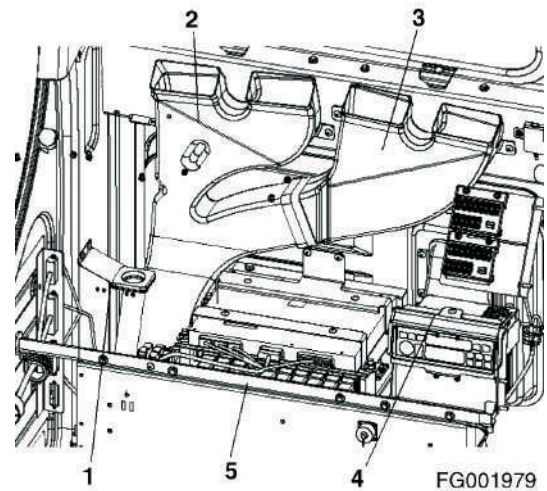

Figure 5
20. Remove air ducts (1, 2, 3 and 4, Figure 5) from cabin rear panel.
21. Remove across bar (5, Figure 5) between left and right side of cabin.